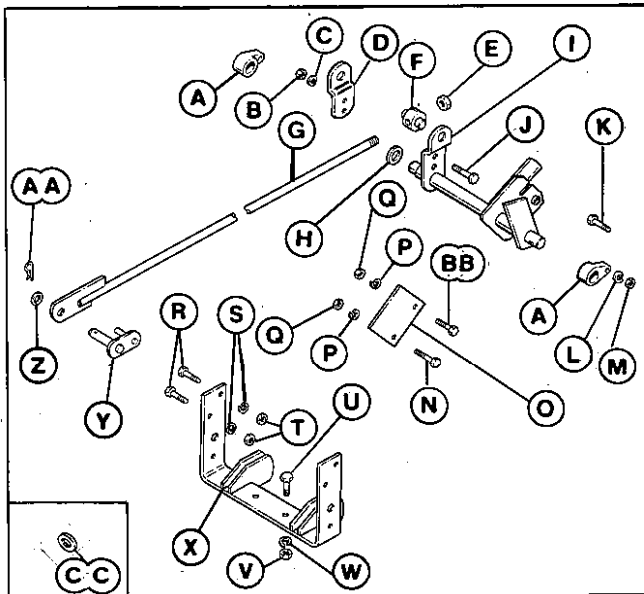
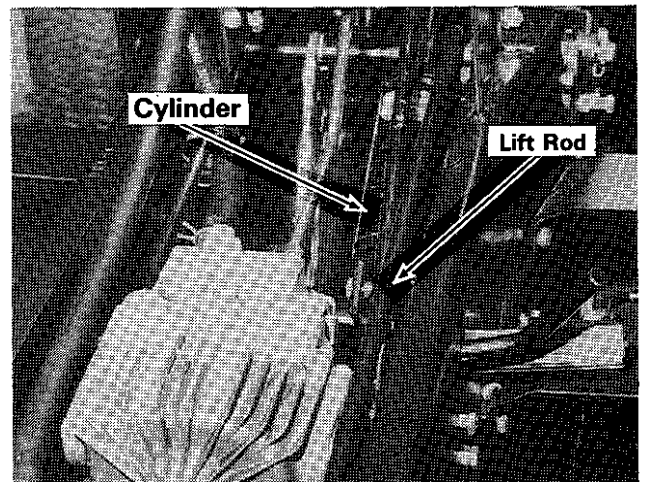
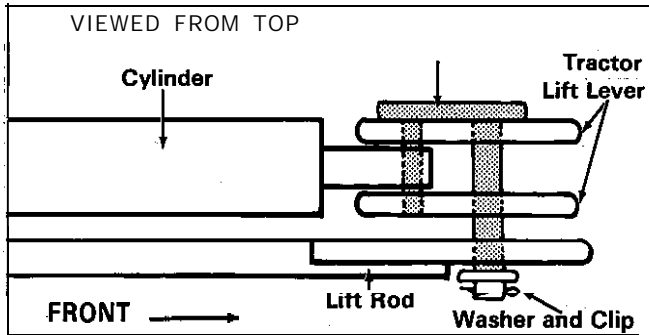
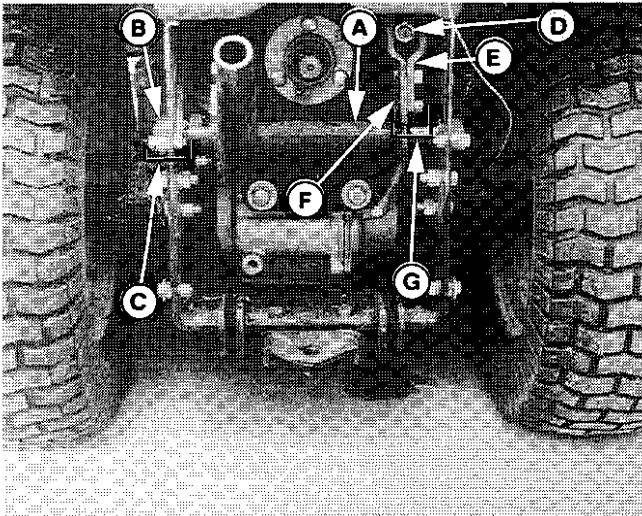

Figure 1. Kit Parts
Figure 3.
Figure 4.
Figure 8.
1. Install the lift rod (G, figure 1) as follows:
- Insert lift rod (G, figure 1) from rear of tractor up to the tractor lift lever. The rear end of lift rod is shown in figure 8. Figure 3 shows the lift rod as it is positioned in tractor.
- The cylinder (figure 3) is connected to the tractor lift lever. Remove the clip and pin, and disconnect the cylinder from the lift lever.
- g. Using the front trunnion (Y, figure 1), connect the cylinder and lift rod(G) to the tractor lift lever. (See figure 4.) Position cylinder and insert short leg of trunnion through it. Connect lift rod to long leg of trunnion. Be sure lift rod is positioned with flat side as shown.
2. For 18 hp models, Mfg. No. 1691307, and older, install special washer (CC, figure 1) as follows:
3. If a rear PTO has been installed on the tractor, it is not necessary to install the upstop plate (O, figure 1). To install, proceed as follows:
4. Insert the lift shaft (A, figure 8) into position, place bearing (B) on to each end, and secure with **capscrew** lockwasher and nut (C) on each side.
5. Position the rear **trunnion** (D) onto **the lift** rod. Install the lift arm half(E) to lift shaft(F) and secure with two **3/8-16x 1" capscrews, 3/8" lockwashers and 3/8" nuts** (G). Install centerlock nut on end of lift rod.
7. From top, connect **hitch (A)** to **drawbar with** two **1/2-13 x 1-1/4 capscrews (C), 1/2" lockwashers, and 1/2" nuts.**